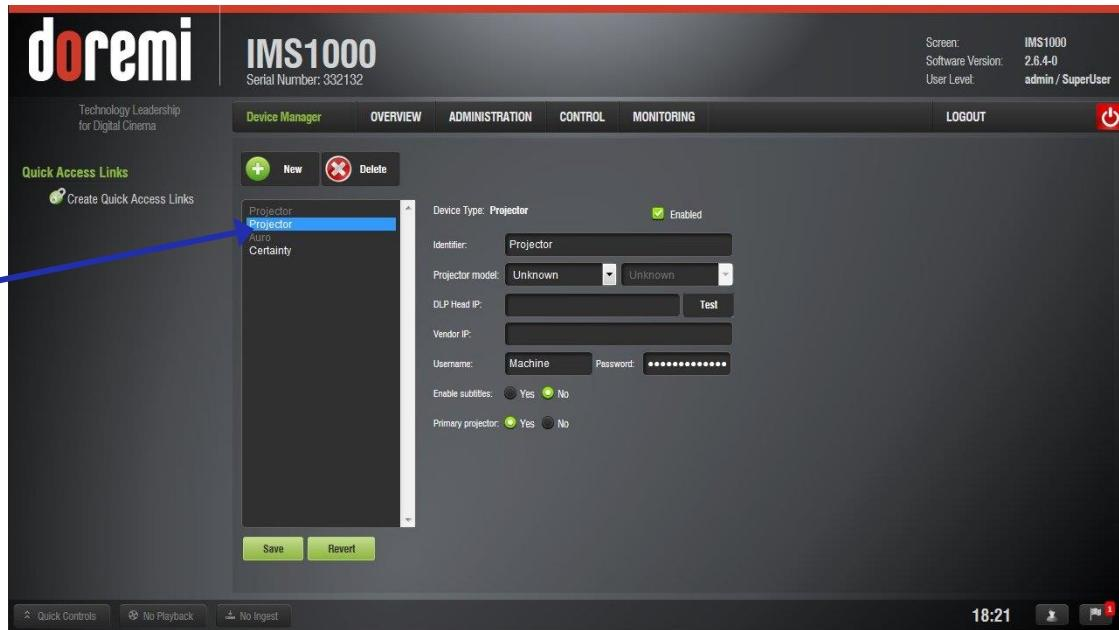

Figure 128: Device Selection Window – Projector Item Selected
- Select Projector. The following window will appear (Figure 128):